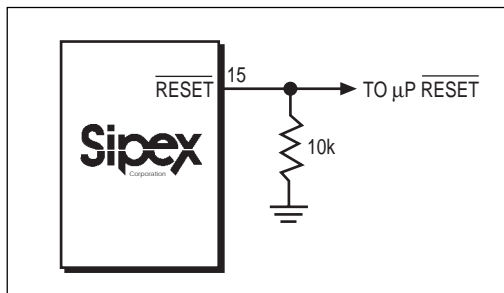

Figure 4. Adding an external pull-down resistor ensures $\overline{\text{RESET}}$ is valid with V_{CC} down to GND.
1.6mA at $V_{OUT} - 0.5\text{V}$. When no backup battery is used, $\overline{\text{RESET}}$ output is valid down to $V_{CC} = 1\text{V}$, and an external 10k Ω pull-down resistor on RESET ensures that $\overline{\text{RESET}}$ will be valid with V_{CC} down to GND as shown on Figure 4. As V_{CC} goes below 1V, the gate drive to the $\overline{\text{RESET}}$ output switch reduces accordingly, increasing the $r_{DS(ON)}$ and the saturation voltage. The 10k Ω pull-down resistor ensures the parallel combination of switch and external resistor is 10k Ω and the output saturation voltage is below 0.4V, while sinking 40 μA . When using a 10k Ω external pull-down resistor, the high state for the $\overline{\text{RESET}}$ output with $V_{CC} = 4.75\text{V}$ is 4.5V typical. For battery voltages greater than or equal to 2V, $\overline{\text{RESET}}$ remains valid for V_{CC} between 0V and 5.5V. $\overline{\text{RESET}}$ will be asserted during the following conditions: